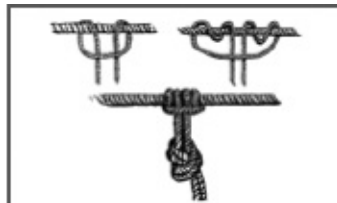

Figure 5-14. Middle-of-the-rope prusik
- j. **Middle-of-the-Rope Prusik.** The middle-of-the-rope Prusik (Figure 5-14) attaches a movable rope to a fixed rope, anywhere along the length of the fixed rope. Make two round turns with a locking bar perpendicular to the standing end. Ensure the wraps do not cross and that the overhand knot is within 6 inches from the horizontal locking bar. Ensure the knot does not move freely on fixed rope.